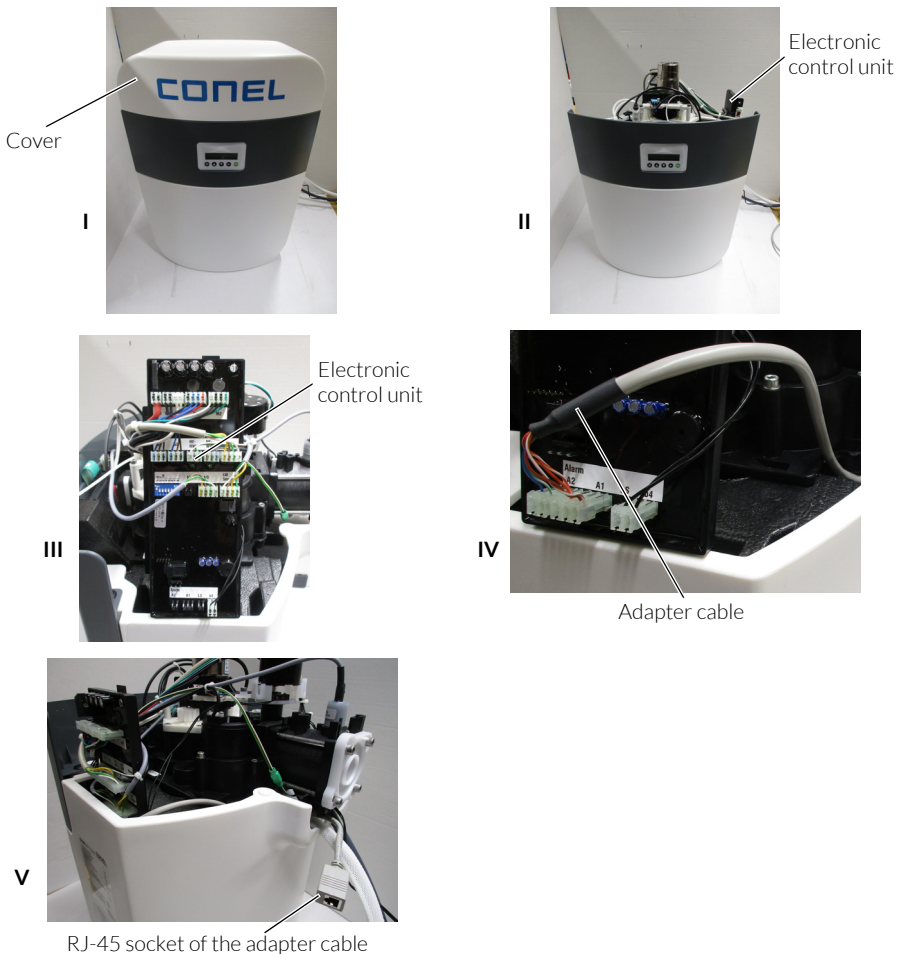

Fig. 4: Connecting the adapter cable to the CLEAR SOFT TWIN device
- / Take the cover off in an upwards direction (see fig. 4 I and 4 II).
- / Pull the electronic control unit out of its mounting (see fig. 4 III).
- / Plug both plugs of the adapter cable on to plug-in positions A1 and A2 of the electronic control unit (see fig. 4 IV).
- / Insert the electronic control unit back into its mounting (see fig. 4 V).
- / Lead the adapter cable to the rear out of the device (see fig. 4 V) and secure with cable ties.